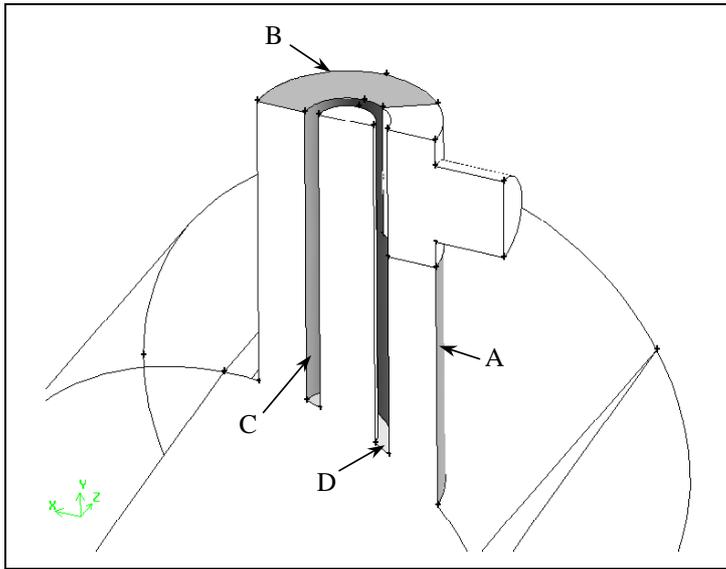

Figure 7-34: Faces to be meshed
1. Mesh the face marked A in Figure 7-34.
- a) Select the curved face marked A in Figure 7-34.
2. Mesh the face marked B in Figure 7-34
- a) Select the face marked B in Figure 7-34 in the graphics window.
3. Mesh the face marked C in Figure 7-34
- a) Select the face marked C in Figure 7-34 in the graphics window.
4. Mesh the face marked D in Figure 7-34.
- a) Select the face marked D in Figure 7-34 in the graphics window.